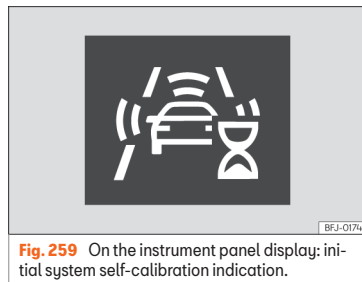

Fig. 259 On the instrument panel display: initial system self-calibration indication.
- In the first few instants of driving after switching on the ignition, due to the system's initial auto-calibration. During this period, a status icon »» **Fig. 259** is displayed.